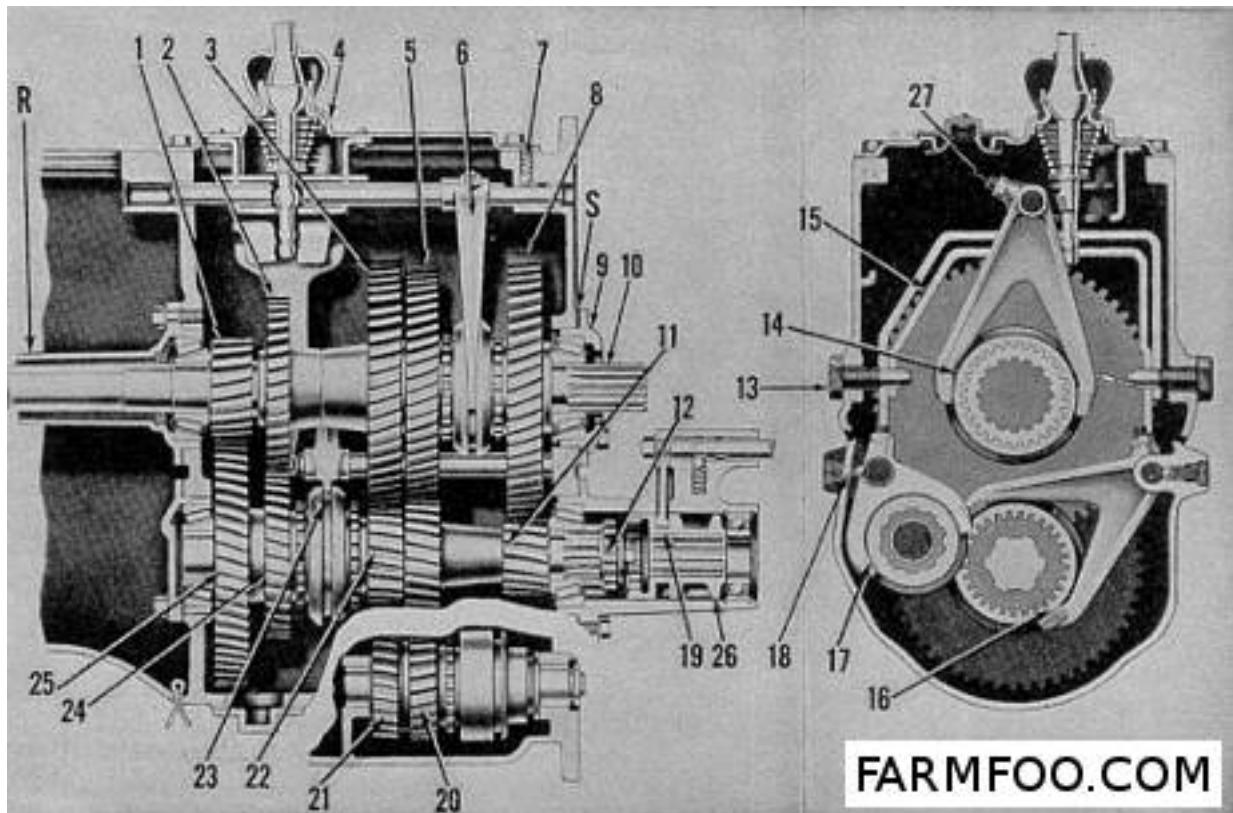

Fig. F057 - Transmission side and end views on model 8N tractor.
77. SHIFTER RAILS AND FORKS. Rails and forks may be removed without performing a front section split, after transmission cover and gear shift lever assembly are off and rear section is separated from transmission case as outlined in paragraph 70A. Lift out top shifter rail spring and detent ball (7-Fig. F057) back off shifter fork lock screw (27) and remove shifter rail and fork. Remove shift plate pivot screws (13) from both sides of transmission housing and remove shift plates. Remove both lower shift rails and forks through top opening after detent springs and balls are out.
78. MAINSHAFT. After transmission is removed as outlined in paragraphs 70 and 70A and top shifter rail and fork are out, proceed as follows: Remove mainshaft rear bearing retainer (9-Fig. F057) and shims. Remove clutch shaft (main drive gear) and retainer (R) as a unit. Remove the reverse idler shaft shift rail, allowing fork to
79. **MAIN DRIVE GEAR (Clutch Shaft).** This gearshaft (1-Fig. F057) may be removed after transmission and engine are separated (as in paragraph 65). However, if bearing adjustment is required it will be necessary to perform the rear section split (as in paragraph 70A) to gain access to the mainshaft bearing shims (S) which control the adjustment. Remove gearshaft and retainer (R) as a unit. Renew worn or damaged parts and reassemble shaft and retainer carefully to prevent damage to the oil seal in the retainer. Lip of oil seal should face towards rear. After shaft is reinstalled check bearing adjustment and if necessary readjust as outlined in paragraph 78A.
80. COUNTERSHAFT. This shaft (11-Fig. F057) may be removed after mainshaft is out but before reverse idler gear is removed. Remove power take-off shifter and bearing support and remove shifter clutch hub from rear end of countershaft. Remove countershaft and gear assembly through cover opening in top of transmission housing. Renew worn or damaged parts and reassemble as shown in Fig. F062. Reinstall the assembly and adjust bearings by means of shims (7135) to obtain zero end play or 15-30 inch pounds torque with shaft in motion and mainshaft removed from transmission. If tested with mainshaft installed, turning torque will be 30-60 inch pounds. Shaft should be rotated for checking bearing adjustment by inserting PTO shaft in shifter unit and engaging the jaw clutch.